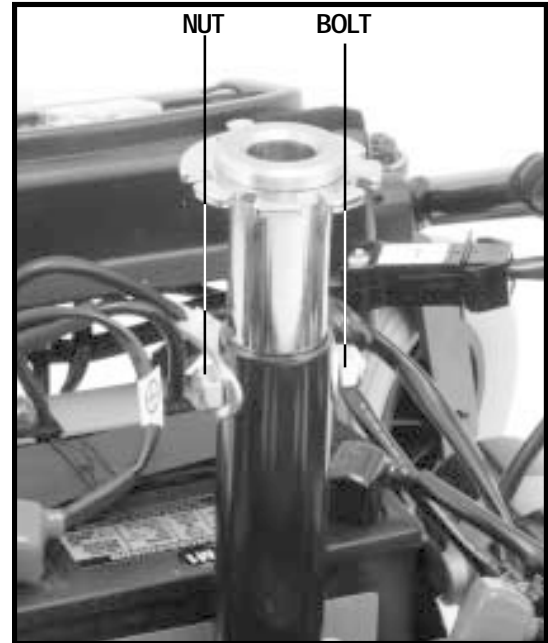

Figure 12. Seat Height Adjustment
2. Remove the nut and bolt from the seat post. See figure 12.